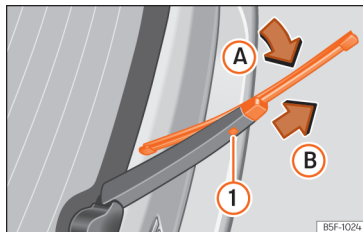

Fig. 221 Changing the rear wiper blade
- Rotate the blade lightly >>> Fig. 221 (arrow A).
- Hold down the release button ① while gently pulling the blade in the direction of arrow B.
- Insert a new blade of the **same length and type** in the rear wiper arm in the opposite direction to the arrow B until button ① hooks into place.